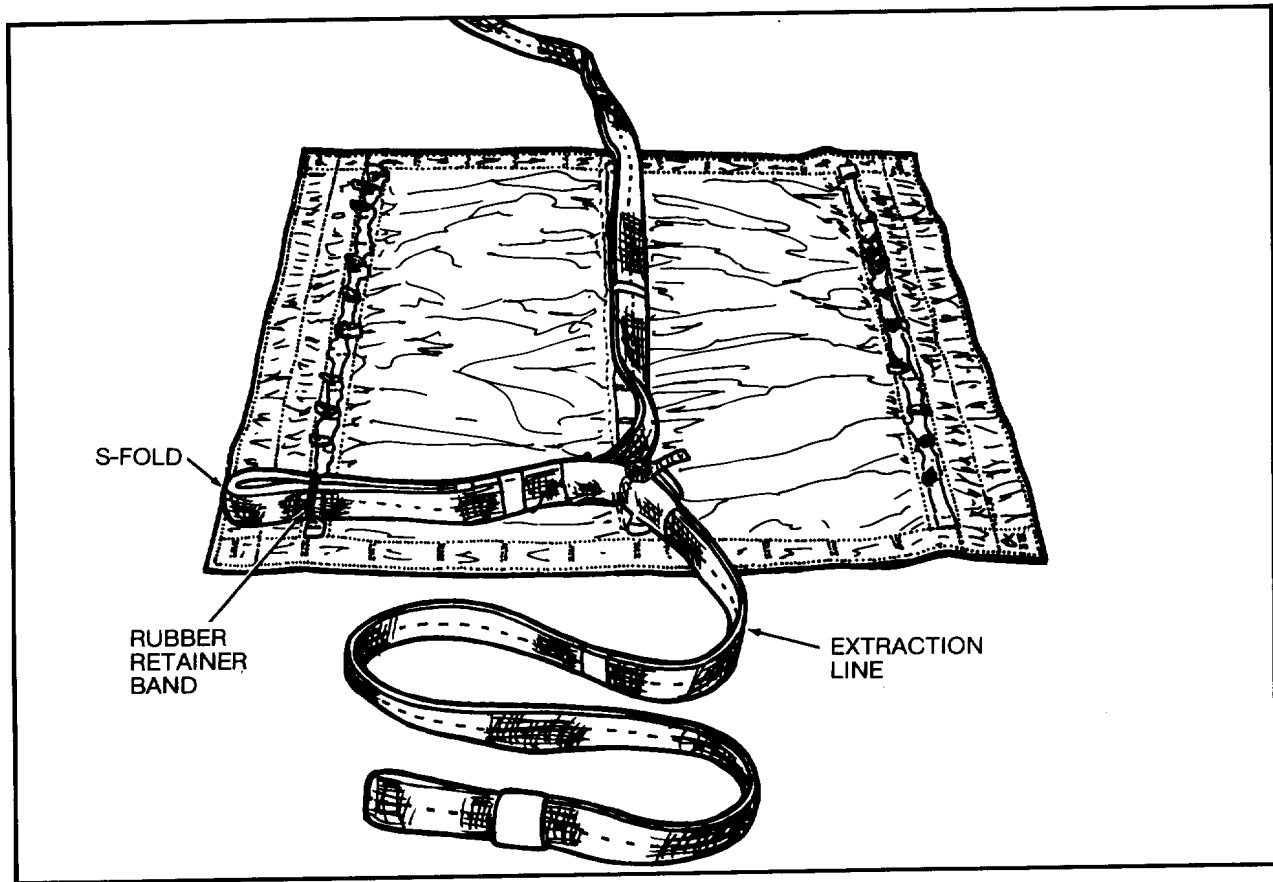

Figure 4. S-Fold of Extraction Line.
- d. Beginning at lower left corner of panel, make first of S-fold/stow extraction line and secure with rubber retainer band (figure 4).